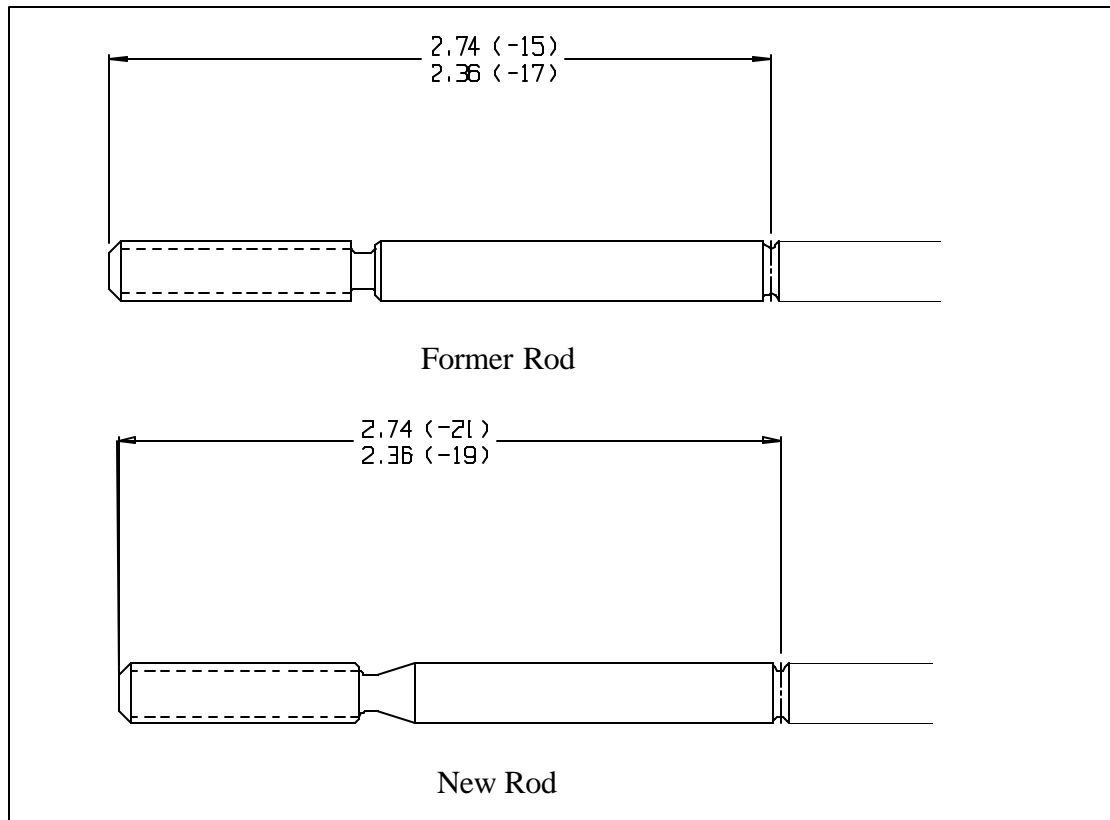
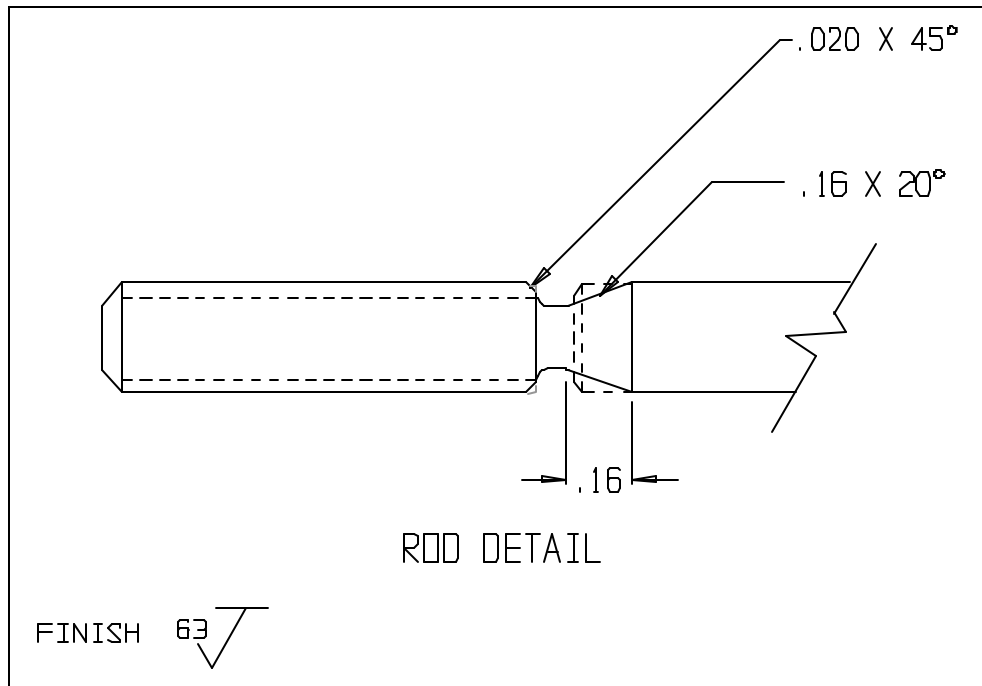

Figure 4. Wastegate Rod Part Number Determination
Figure 5. Existing Rod Modification to the New Rod Dimensions
- B. Modify the existing rod in accordance with Figure 5 and proceed to Step D.
- (1) Use a manual or CNC lathe.
- (2) Turn a 0.16" by 20° chamfer as shown.
- (3) Turn a 0.02" by 45° chamfer as shown. Break sharp corners.
- (4) Minimum 63 surface finish required.
- C. Determine whether to install P/N 28-12551-19 or P/N 28-12551-21 by measuring the section of the old rod at the location shown in Figure 4. For 2.74", install the -21 rod. For 2.36", install the -19 rod.